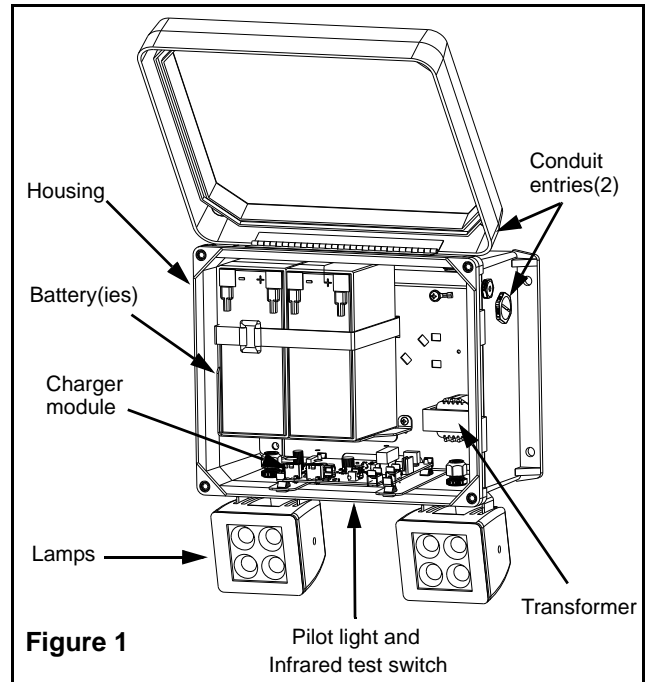

Figure 1
2. Open the cover (See figure 1).